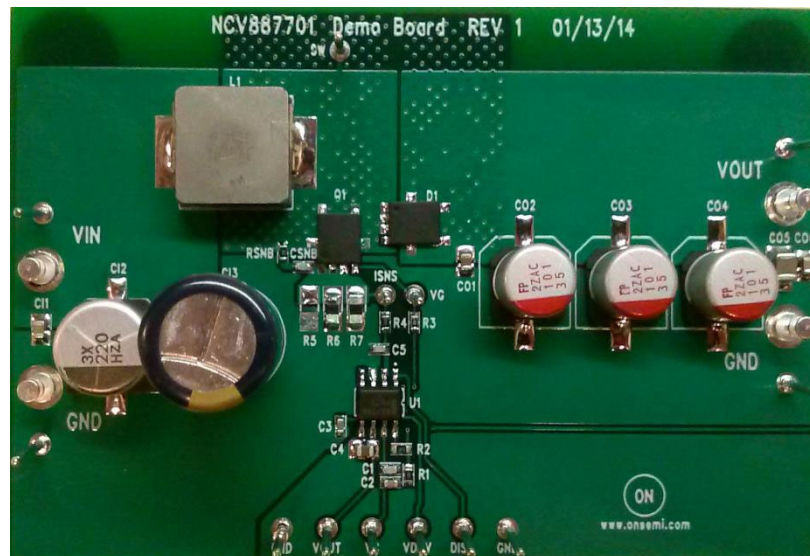

Figure 1. NCV887701 Start-Stop Evaluation Board
1. Connect a DC source voltage (15 A capable) set to a voltage of 12 – 13 V as shown in Figure 1.
2. Connect the DISB TTL control signal as shown in Figure 1. The initial DISB state should be set to logic ‘0’.